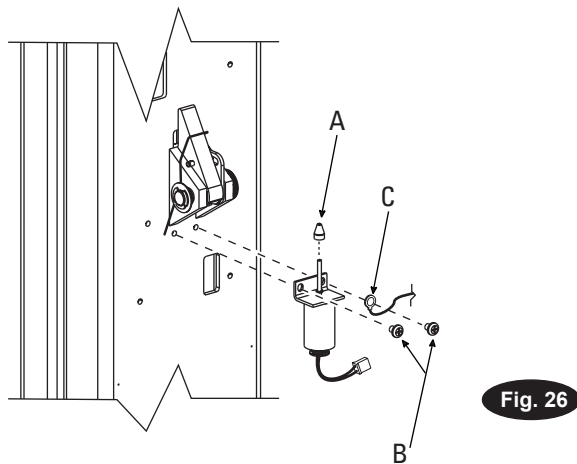

Fig. 26 Detail
20. Solenoid Attachment: Attach solenoids under locking latches of both columns, Fig. 26. Place sliders onto solenoid plunger rods. Place solenoids onto columns and tighten, Fig. 26.
Remove access panel from the master control panel (master control panel has 5 cables attached to it), Fig. 27. Install (2) 5/16"-18NC x 3/8" PHMS screws in holes on each side of the locking latch (power unit side) leaving approximately 3mm exposed to hold the panel. Hang the master control panel over locking latch to column on the 5/16"-18NC x 3/8" PHMS screws and pull the locking latch solenoid wire through the panel, Fig. 27. Plug locking latch solenoid into master control panel. Connect the ground wire ring terminal to one of the lock solenoid mounting screws, Fig. 26. Install (1) 5/16"-18NC x 3/8" PHMS in bottom of master control panel. Tighten down all (3) screws. Do not install access panel back into control panel at this time. It will be reinstalled in a later step.
Remove access panel from the slave control panel, Fig. 29. Place (2) 5/16"-18NC x 3/8" PHMS screws in holes on each side of the locking latch leaving approximately 3mm exposed to hold the panel. Hang the slave control panel over locking latch to column on the 5/16"-18NC x 3/8" PHMS screws and pull the locking latch solenoid wire through the panel, Fig. 29. Connect the ground wire ring terminal to one of the lock solenoid screws, Fig. 26. Install (1) 5/16"-18NC x 3/8" PHMS in bottom of slave control panel. Do not install access panel back into control panel at this time. It will be reinstalled in a later step.